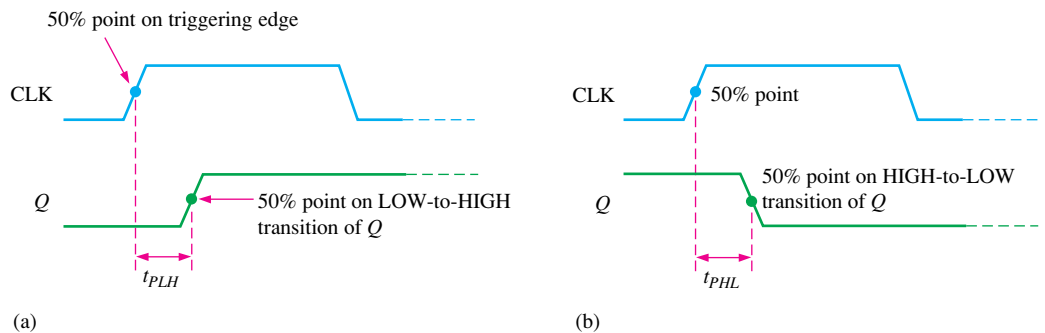

FIGURE 7-31 Propagation delays, clock to output.
1. Propagation delay t_{PLH} as measured from the triggering edge of the clock pulse to the LOW-to-HIGH transition of the output. This delay is illustrated in Figure 7-31(a).
2. Propagation delay t_{PHL} as measured from the triggering edge of the clock pulse to the HIGH-to-LOW transition of the output. This delay is illustrated in Figure 7-31(b).